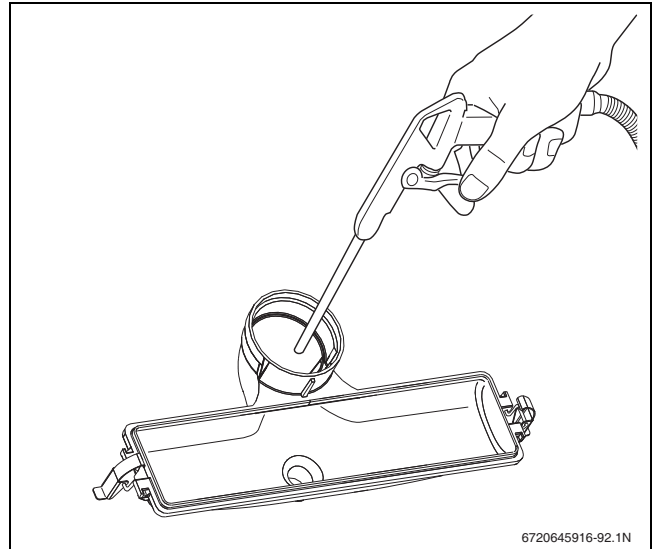

Fig. 95 Cleaning the condensate collector
- Clean the condensate collector mechanically (using compressed air or a soft brush) and rinse it with clean water (→ fig. 95).